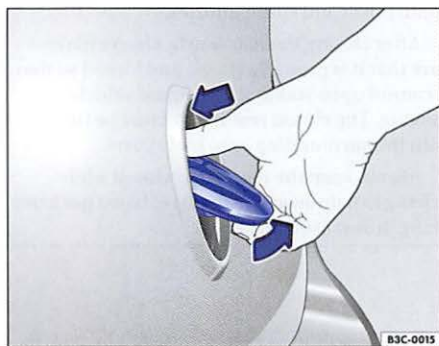

Fig. 24 Opening rear hatch from the outside.
- Using your thumb, press the top of the Volkswagen emblem ⇒ fig. 24 and move the emblem down. Grasp the bottom part of the emblem and pull to lift the rear hatch. ▶